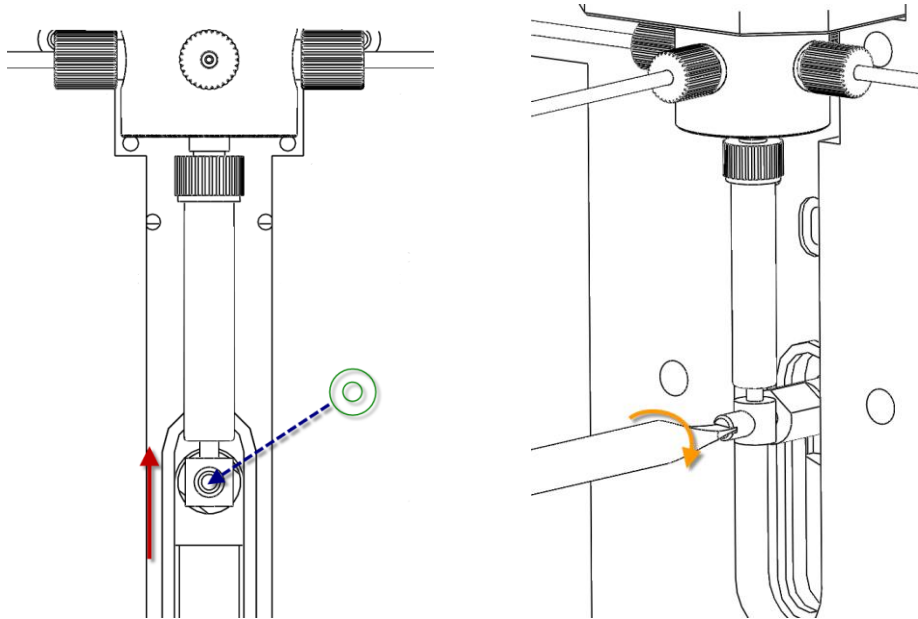

Figure 5-10 To Replace the Syringe of L-3320 (5)
7. Push the plunger of the syringe up to align the installation hole on the plunger with the connecting thread hole on the push rod of the syringe and the liquid in the syringe will be drained through the waste port. Then, screw the stationary shaft of the push rod into the connecting thread hole via the installation hole on the plunger of the syringe and tighten it using the screw driver (as shown in Figure 5-10).